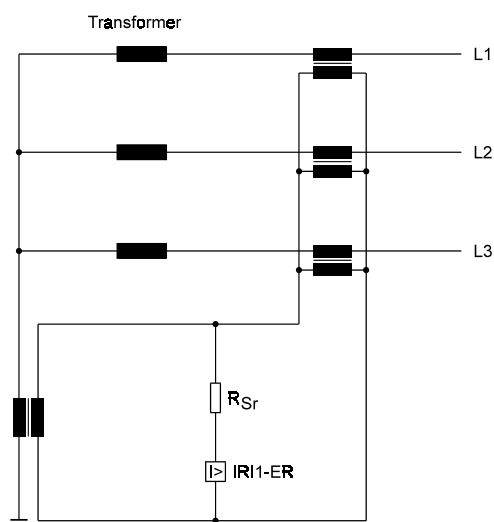
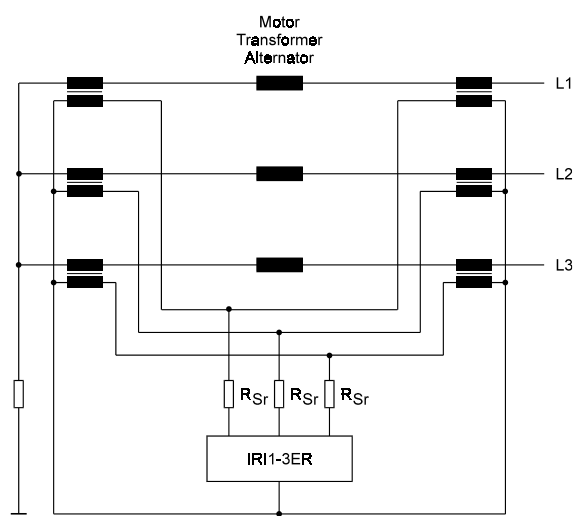

Fig. 2.1: Zero-current differential protection of a transformer in star-connection (*IRI1-ER*)
Fig. 2.2: Highly stabilized differential protection for alternators, transformers and motors (*IRI-3ER*)
- Zero-current differential protection of the star point winding (restricted earth fault) of a transformer (*IRI1-ER*), see figure 2.1
- Highly stabilized differential current relay for alternators, transformers and motors (*IRI-3ER*), see figure 2.2
The protection relay *IR11-ER* is connected to the differential circuit of the c.t.s as a current differential protection relay. When used as zero-current differential protection (restricted earth fault), the relay (*IR11-ER*) is to be connected acc. figure 2.1. When used as highly stabilized differential current relay, the relay (*IR11-3ER*) is to be connected acc. figure 2.2.